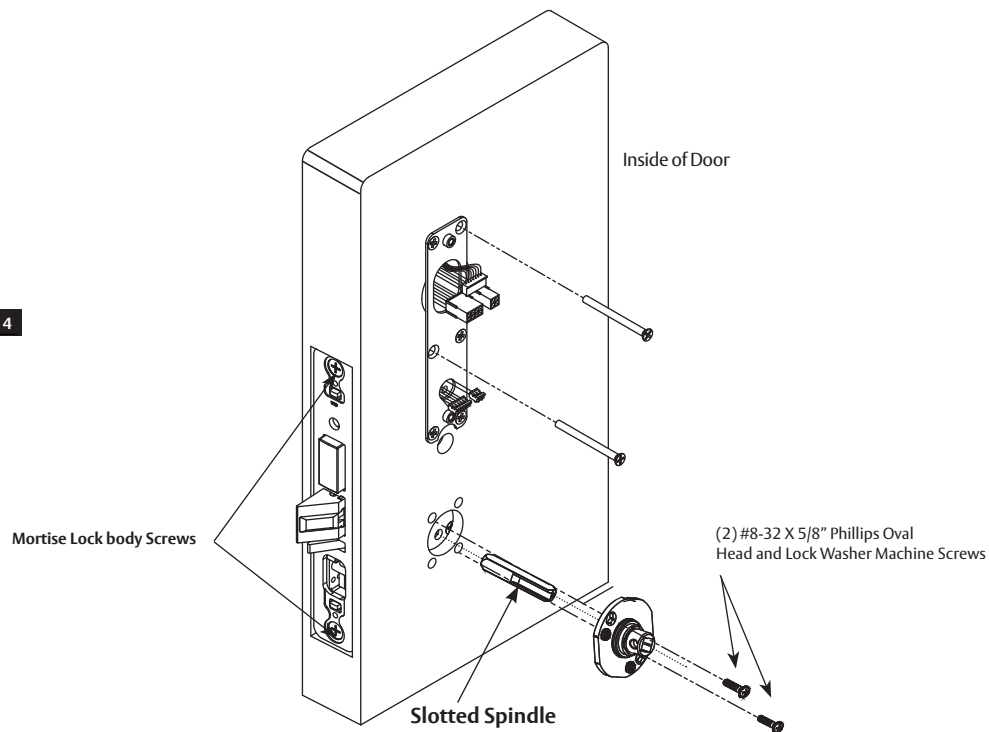

Figure 4
3. On the inside of the door, insert slotted spindle into square hole of mortise lock (Figure 4), with spindle slot directed away from the lock body, and aligned with the set screw hole in the inside adapter.
4. Slide inside adapter and plate assembly over spindle and loosely secure with (2) #8-32 X 5/8" Phillips oval head and lock washer machine screws.